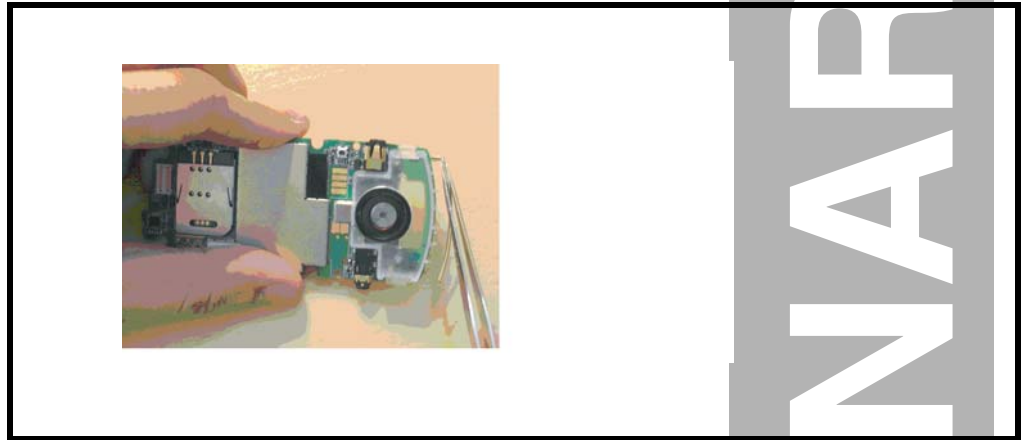

Figure 18. Removing the Antenna Carrier
2. Lift the antenna carrier from the Main PCBA by tweezers as shown in Figure 18.